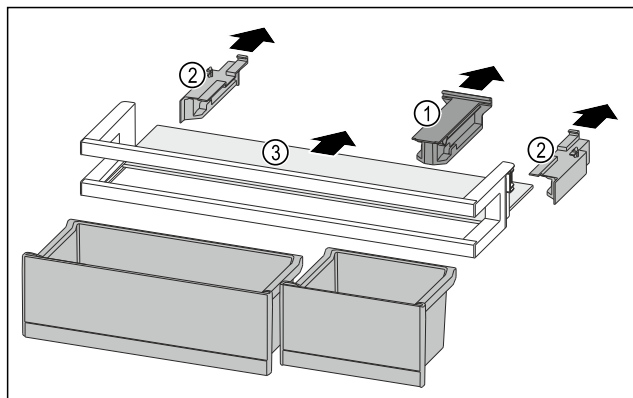

Fig. 248
- Pull off the holding part Fig. 248 (1).
- Pull off the side parts Fig. 248 (2).
- Remove the shelf Fig. 248 (3).